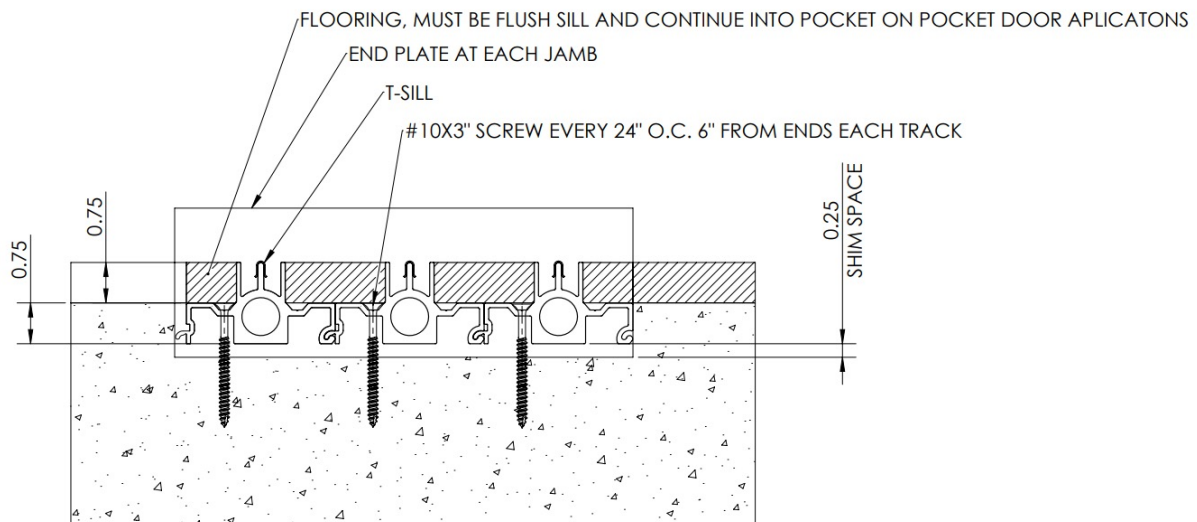

Figure 2
- Sill: Holes should be drilled 6" from each end and every 24" on center per track. (See Figure 2).